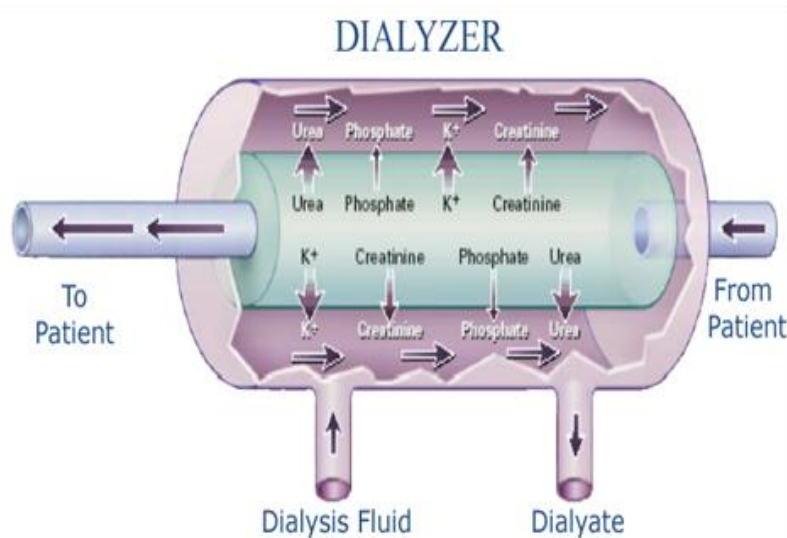

Figure.4. the Dialyzer in general
- The dialyzer functions as an artificial kidney to clean the blood of wastes and extra fluids, it has two parts, one for the blood and the other for a washing fluid called a dialysate, a thin membrane separate the two apart, the dialyzer contain a semipermeable membrane that is encased in a plastic, because of its semi permeability, solutes are allowed to pass through tiny pores allowing some to come through but keep others out, as in figure 4.